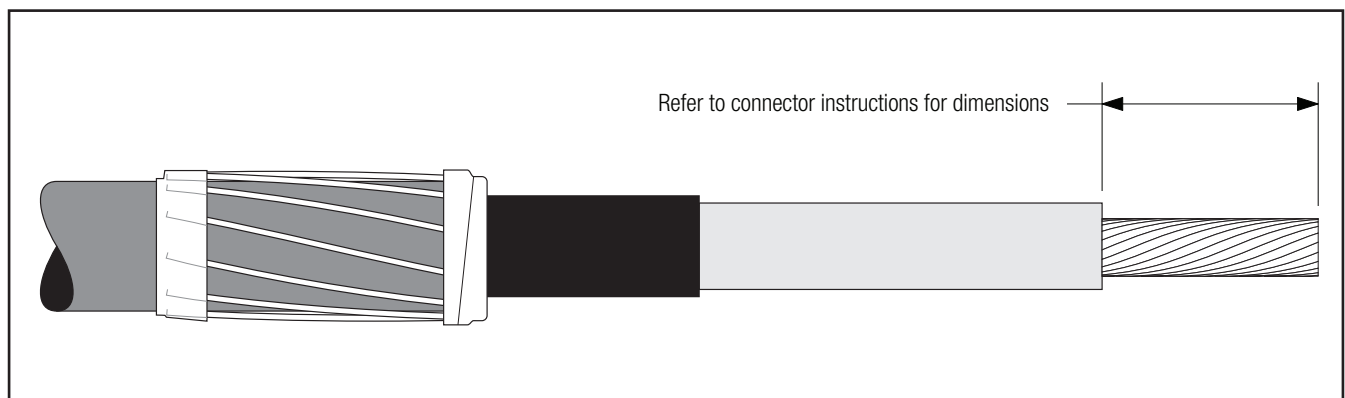

Figure 6
- 3.1 If using a 3M Shearbolt Connector QCI 500-1000, refer to the instructions included with the connector for insulation cut-back dimension. Insulation removal length shall not exceed 3 3/4" (95 mm) from conductor end (*Figure 6*).